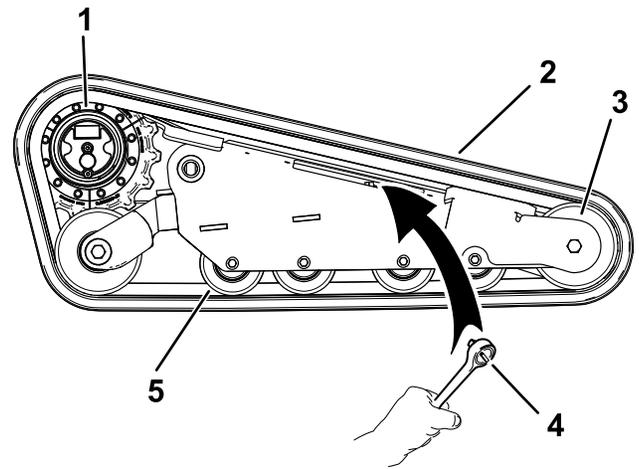

Figure 72
7. Using a 1/2-inch drive ratchet, release the drive tension by turning the tensioning screw clockwise (Figure 70 and Figure 72).
1. Wrap the new track around the front wheel (Figure 72).
2. Push the track under and between the road wheels and wrap it around the rear tension wheel (Figure 72).